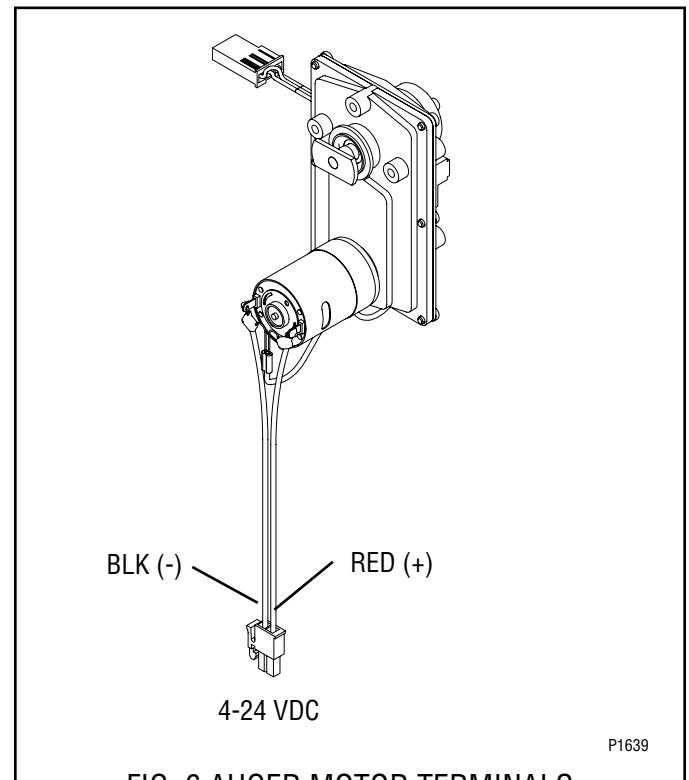

FIG. 6 AUGER MOTOR TERMINALS
6. Remove auger motor (13) and dust seal (14) as an assembly.
7. Remove dust seal (14) from auger motor (13).
10. Using #8-32 screws, install new auger motor (13) on mounting bracket (11).
11. Install dust seal (14) on auger motor shaft.
12. Using #8-32 locking screws install auger motor and dust seal to the rear of the auger motor mounting panel (11)
15. Install hopper support plate (16) and all hopper assemblies.
16. Refer to Fig. 6 when reconnecting wires.